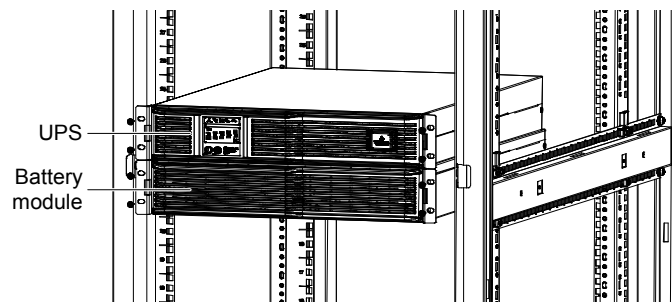

Figure 2-19 Installing the UPS with battery modules
5. Connect the main input N line, L line and PE line respectively to the input neutral line terminal, input live line terminal (U), input ground line terminal of the UPS I/O terminal block, and tighten the fixing screws. Short the input live line terminal (V), input live line terminal (W) and input live line terminal (U1) using the shorting wire (label: W01), as shown in Figure 2-19.
6. Connect the output L line, N line and PE line respectively to the output live line terminal, output neutral line terminal and output ground line terminal of the UPS I/O terminal block, and tighten the fixing screws, as shown in Figure 2-19.
5. Remove the shorting wire (label: W01, see Figure 2-19) from the UPS I/O terminal block.